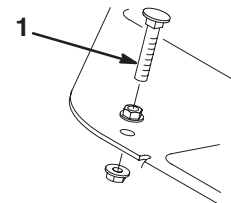

Figure 51
1. Press down on the traction pedal. If the pedal contacts the stop (Fig. 51) before tension is felt on the cable, an adjustment is required:
- A. Loosen flangehead locknuts securing the pedal stop to the floor plate (Fig. 51).